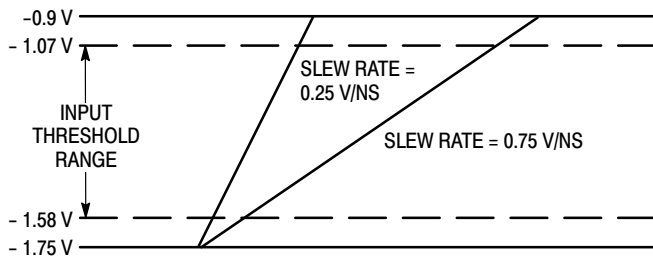
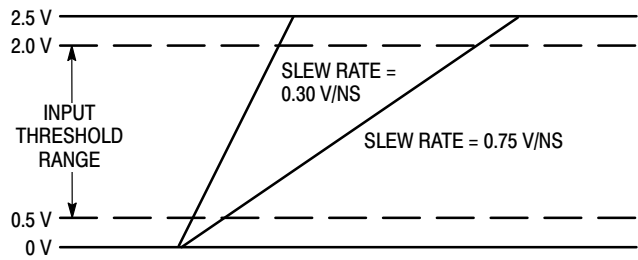

Figure 4. ECL Dispersion Test Input Conditions
Figure 5. TTL Dispersion Test Input Conditions
- Refer to figure 4 and note that the input is at 850mV ECL levels with the input threshold range between the 20% and 80% points. The delay is measured from the crosspoint of the input signal and the threshold value to the crosspoint of the Q and $\overline{Q}$ output signals.
- Refer to Figure 5 and note that the input is at 2.5 V TTL levels with the input threshold range between the 20% and 80% points. The delay is measured from the crosspoint of the input signal and the threshold value to the crosspoint of the Q and $\overline{Q}$ output signals.
Figure 4 and Figure 5 define a range of input conditions which incorporate varying input slew rates and input voltage overdrive. For input parameters that adhere to these constraints the propagation delay can be described as: